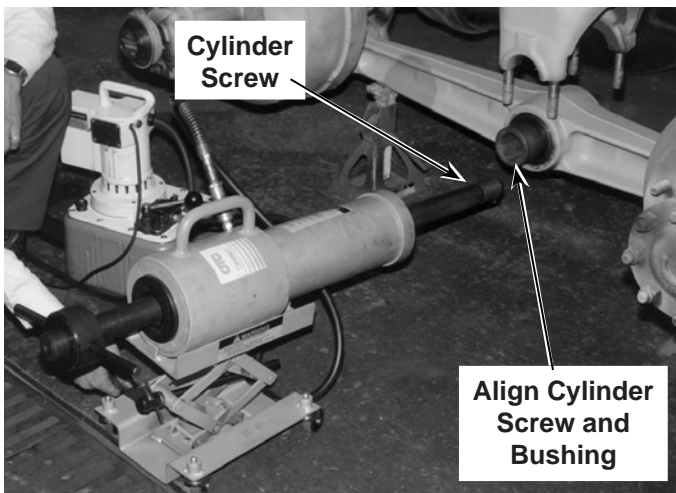

Figure 4
6. Roll the dolly and cylinder assembly up to the beam and adjust the dolly for the correct height. Use the cylinder screw (302023) as a centering guide. See Figure 4.